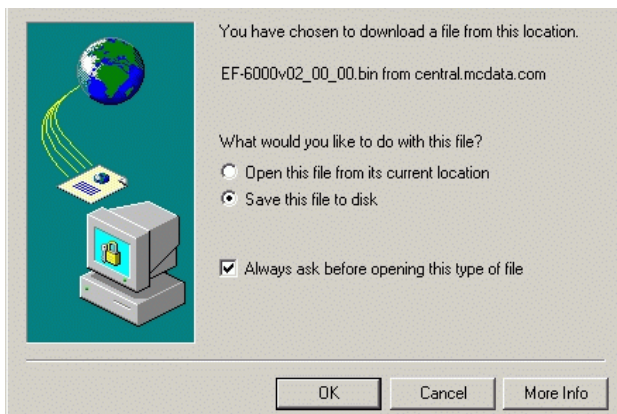

Figure 4-77 File Download Dialog Box
- h. In the *Action* column adjacent to the approved request for the software version, click *Download*. The *File Download* dialog box displays (Figure 4-77).